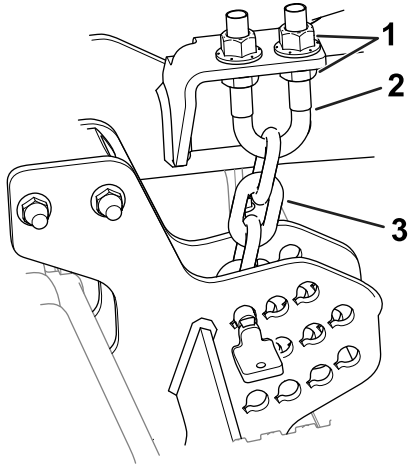

Figure 6
7. Loosen the lower jam nuts on the height-of-cut chain U-bolt (Figure 6).
8. Adjust the nuts (Figure 6) to raise or lower the rear of the cutting unit so that the tips of the rear blades are 6 to 10 mm (1/4 to 3/8 inch) higher than the front tips.